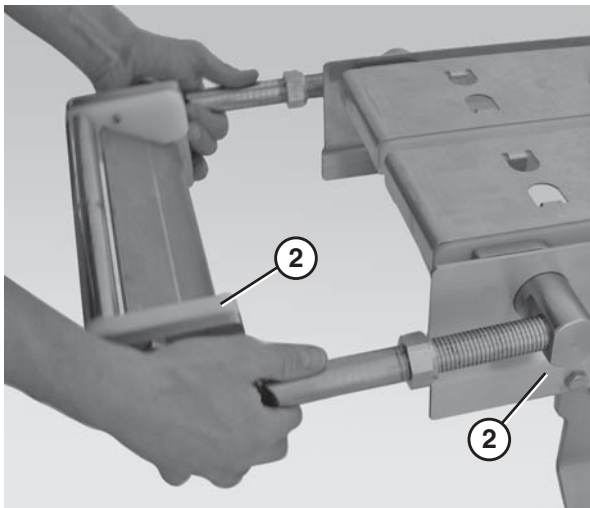

Figure 78
- Slide the nose bar tail assembly (Figure 78, item 1) out of the take up blocks (Figure 78, item 2).